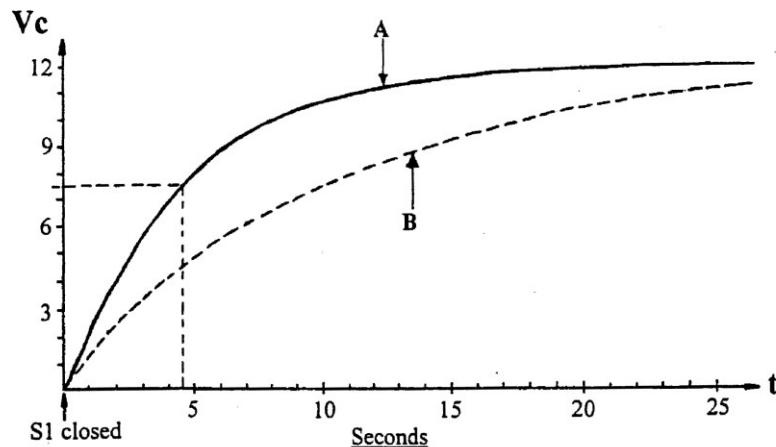

Figure 15
If we note down the voltage values measured every half a second from the moment S1 is closed, and these voltage values are plotted as a graph, we would get a curve similar to the one shown in Fig. 15.
- Compare these two answers with the values indicated by the dotted lines on curve A of Fig. 15.
- Indicate the $T = RC$ point by making an X on curve B of Fig. 15.